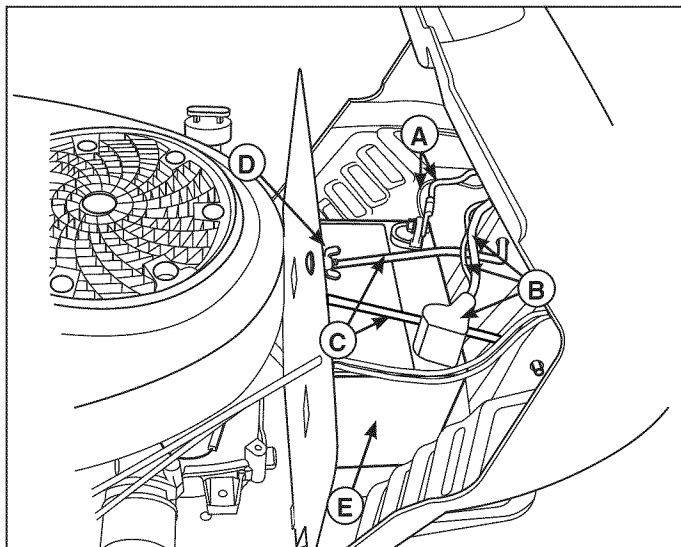

Figure 12
1. Disconnect the cables from the battery, negative cables first (A, Figure 12) then the cover and positive cables (B).
2. Loosen the wingnut and washer (D).
3. Pivot the hold-down rod (C) up and away from battery. Secure to steering tower.
4. Remove the battery (E).